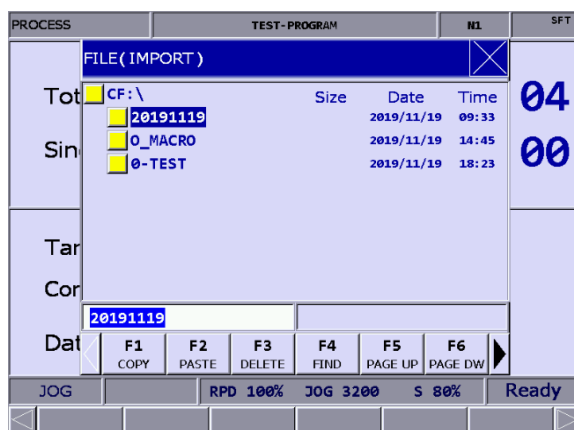

Figure 9.8.1
- (1) Press **DGN** to enter the DGN screen.
- (2) Press **▶** to display the function bar on the next page.
- (3) Press **IMPORT** to display the file manager (FILE) window as shown in Figure 9.8.1. Press **↑** and **↓**, select the directory for importing, and press **ENTER** to read the files in the folder.